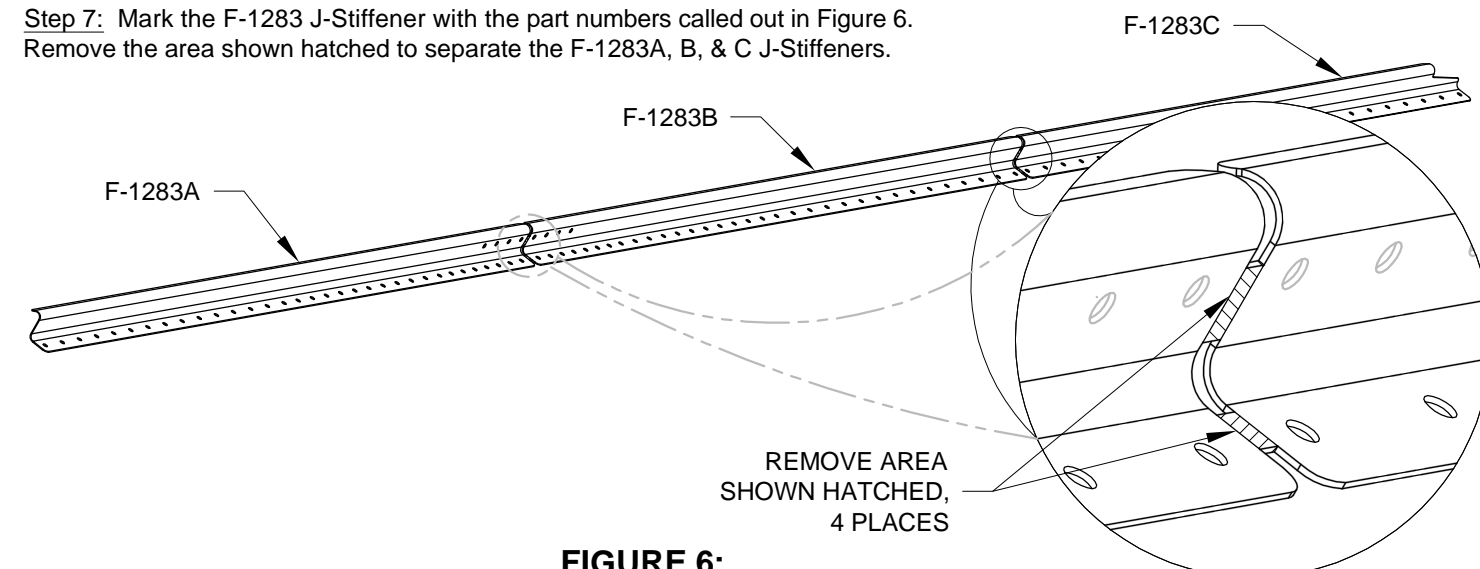

FIGURE 6:
Step 7: Mark the F-1283 J-Stiffener with the part numbers called out in Figure 6. Remove the area shown hatched to separate the F-1283A, B, & C J-Stiffeners.